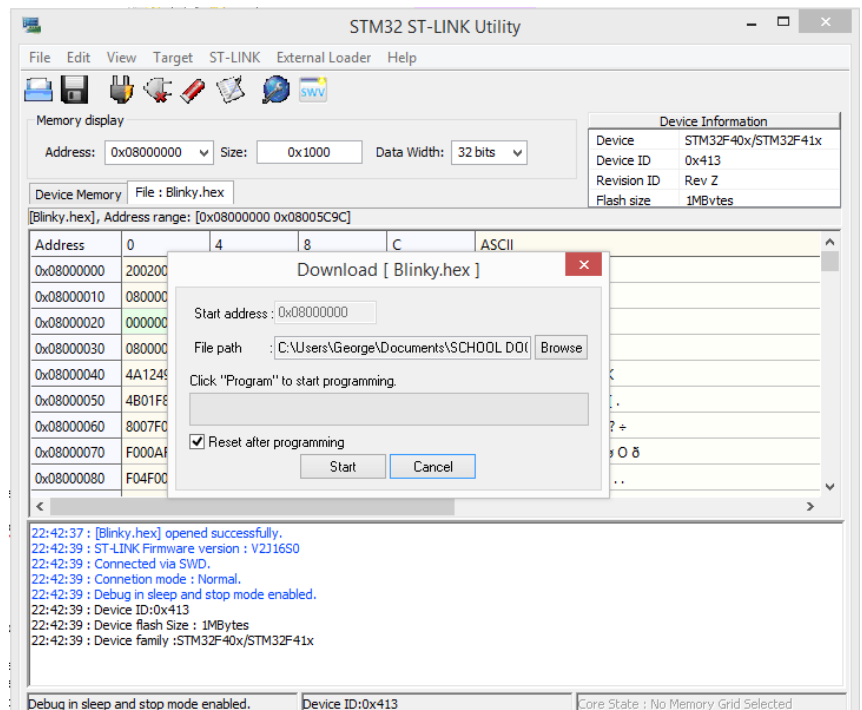

Figure 2: Programming Blinky.hex onto STM32F4
5. Once the file is loaded into the ST-Link Utility, press Target/Program_&_Verify/Start (see Fig. 2 above)